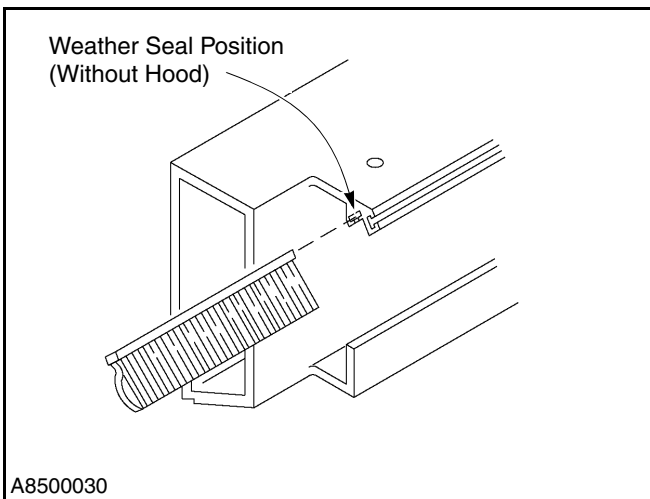
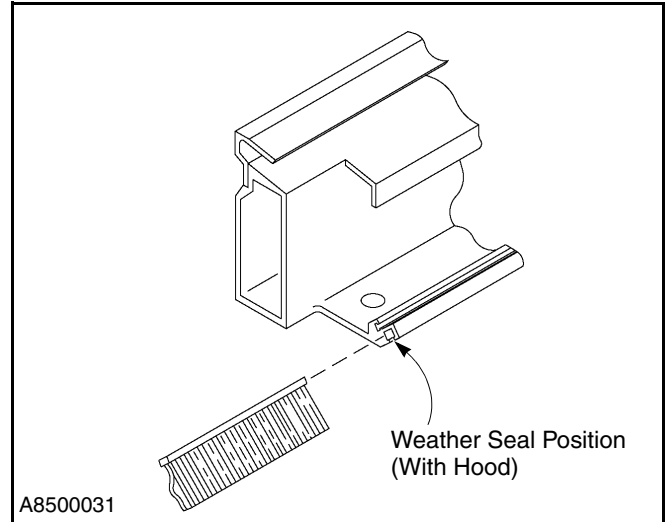

Figure 37
Figure 38
3. Insert the new weather seal in the channel. (See Figure 37 and Figure 38 for positions.)